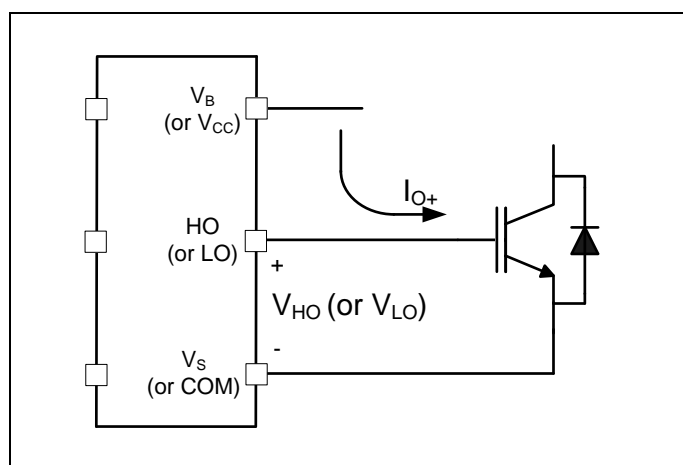
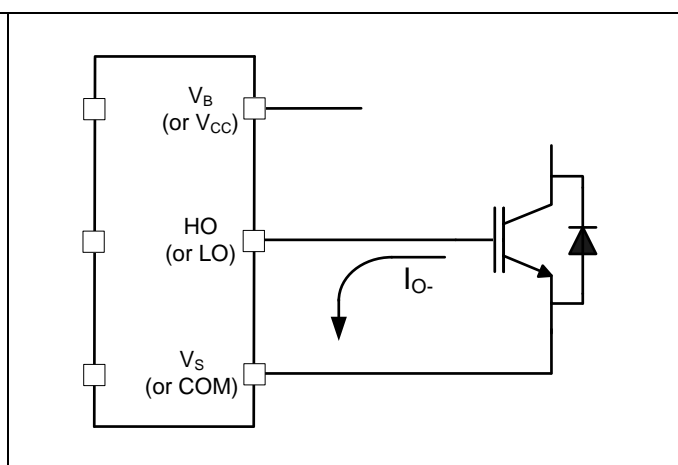

Figure 4 HVIC Sourcing current
Figure 5 HVIC Sinking current
The 2ED2108 (4) S06F (J) HVIC is designed to drive MOSFET or IGBT power devices. Figure 4 and Figure 5 illustrate several parameters associated with the gate drive functionality of the HVIC. The output current of the HVIC, used to drive the gate of the power switch, is defined as I_O . The voltage that drives the gate of the external power switch is defined as V_{HO} for the high-side power switch and V_{LO} for the low-side power switch; this parameter is sometimes generically called V_{OUT} and in this case does not differentiate between the high-side or low-side output voltage.